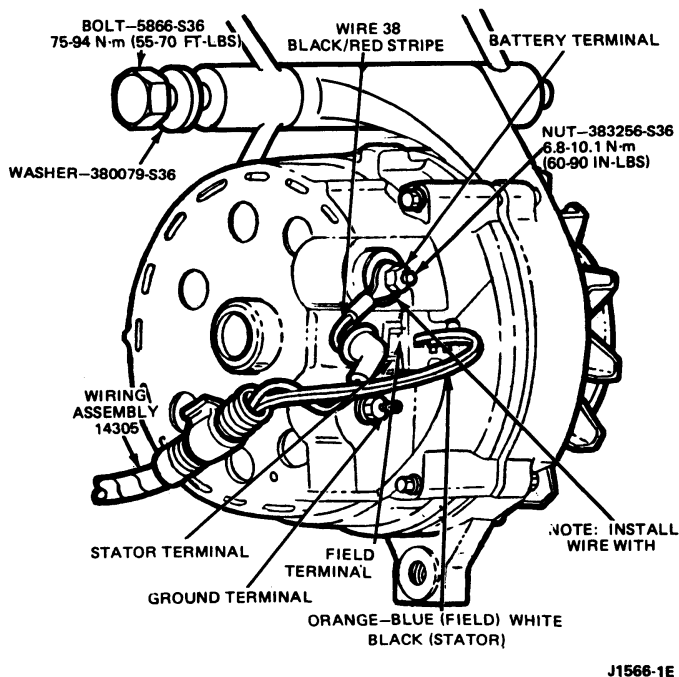

FIG. 3 Typical Wiring Connections—Side Terminal Alternator 4.9L (300 CID) Engine Connections Shown
3. Remove the electrical connectors from the alternator (Fig. 3). The stator and field connectors are the push-on blade type with a lock that engages with the alternator housing. Depress the lock tab and pull the connector straight off the terminals to prevent damage to them and the connector.
4. Connect the electrical connectors to the alternator (Fig. 3). Be sure each connection is clean and tight.